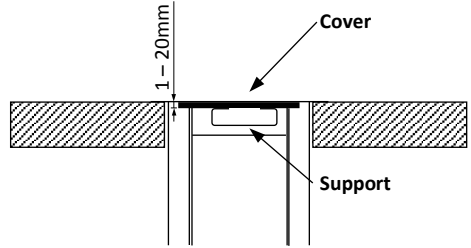
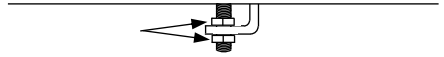

Fig 6
Fig 7
3. Depending on the thickness of the worktop and the cover, it is possible to achieve an adjustment of 20mm (Fig 6). This adjustment is possible by tightening or un-tightening the two nuts that secure the central pivot of the actuator (Fig 7).